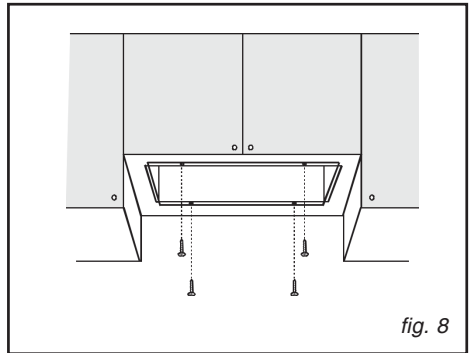

fig. 8
- Assembly for SHG86-SHG88-SHG89 models (Fig. 8): fit the appliance to the pensile cupboard by means of 4 screws.